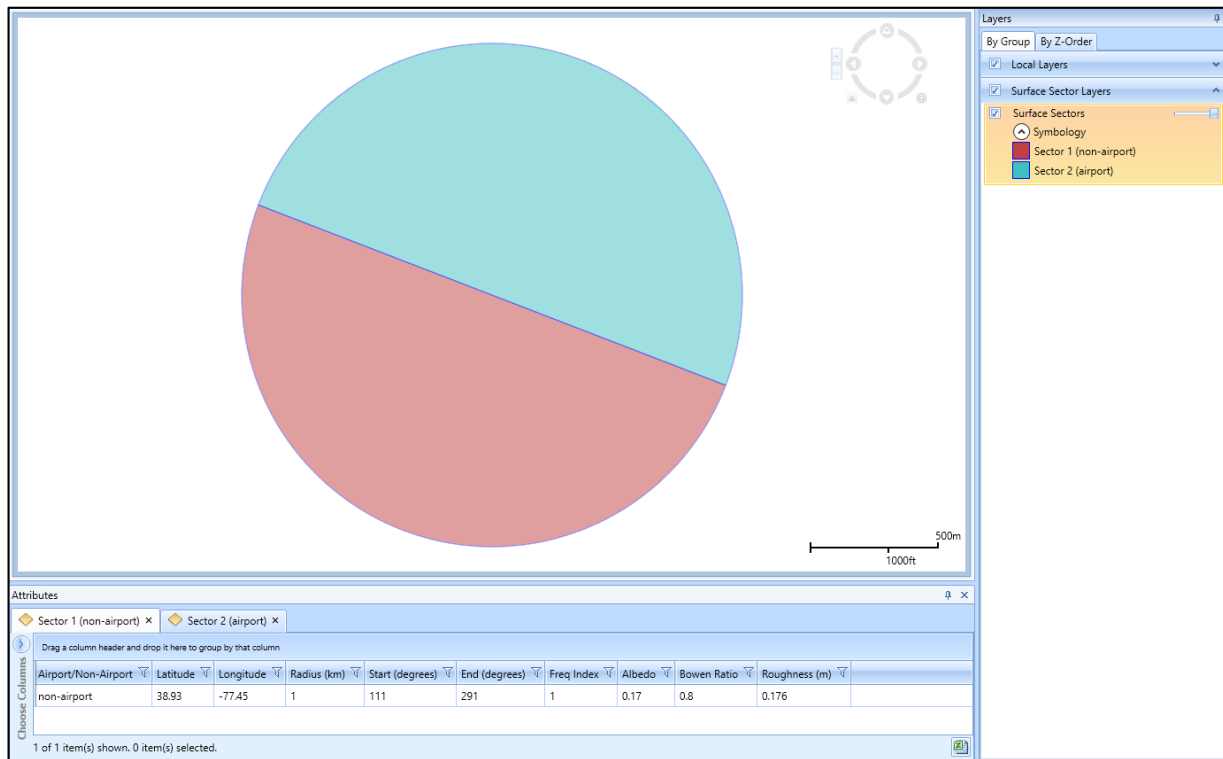

Figure 5-41 Sample Surface Sector Layer with Attributes
3. The surface sector layer is displayed on the map (Figure 5-41) and in the *Layers* manager.